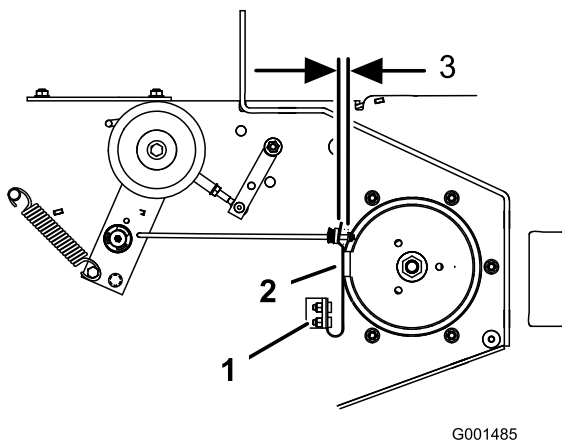

Figure 57
3. If necessary, adjust the spring-mounting bolts so that the blade-brake pad rubs against both sides of the pulley groove (Figure 57).
4. Adjust the nut at the end of the blade brake rod until there is 3 mm to 5 mm (1/8 to 3/16 inch) between the nut and spacer (Figure 57).